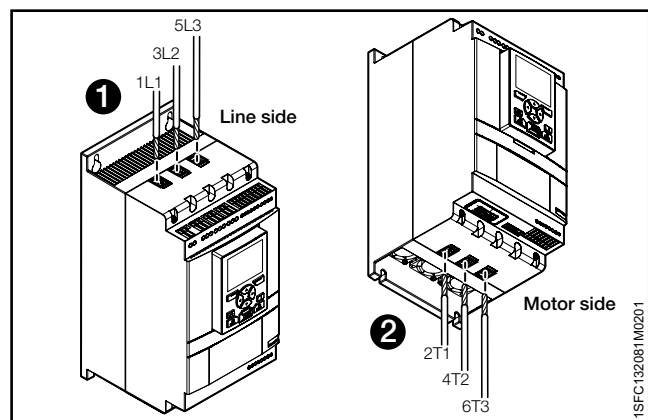

Figure 5.2
Use wire connection for PSTX30...105 see **Figure 5.2** and terminal connection for PSTX142...570 see **Figure 5.3**.
- Connect the line side to terminals 1L1, 3L2, 5L3, see **1** in **Figure 5.2** and **Figure 5.3**.
- Connect the motor to terminals 2T1, 4T2, 6T3 on the motor side, see **2** in **Figure 5.2** and **Figure 5.3**.